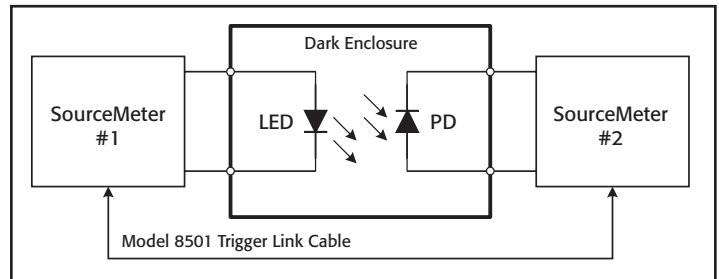

Figure 9. Basic LED/Photodetector System configuration.
Figure 9 illustrates the LED with photodetector (PD) system. The objective of the system is to supply a positive current bias to
Two examples have been developed to illustrate the Trigger Model configuration for the dual SourceMeter system shown in **Figure 9**. The first shows a single-point test where the LED and PD are tested once. The second example shows how to configure a simple ten-point sweep with both instruments.